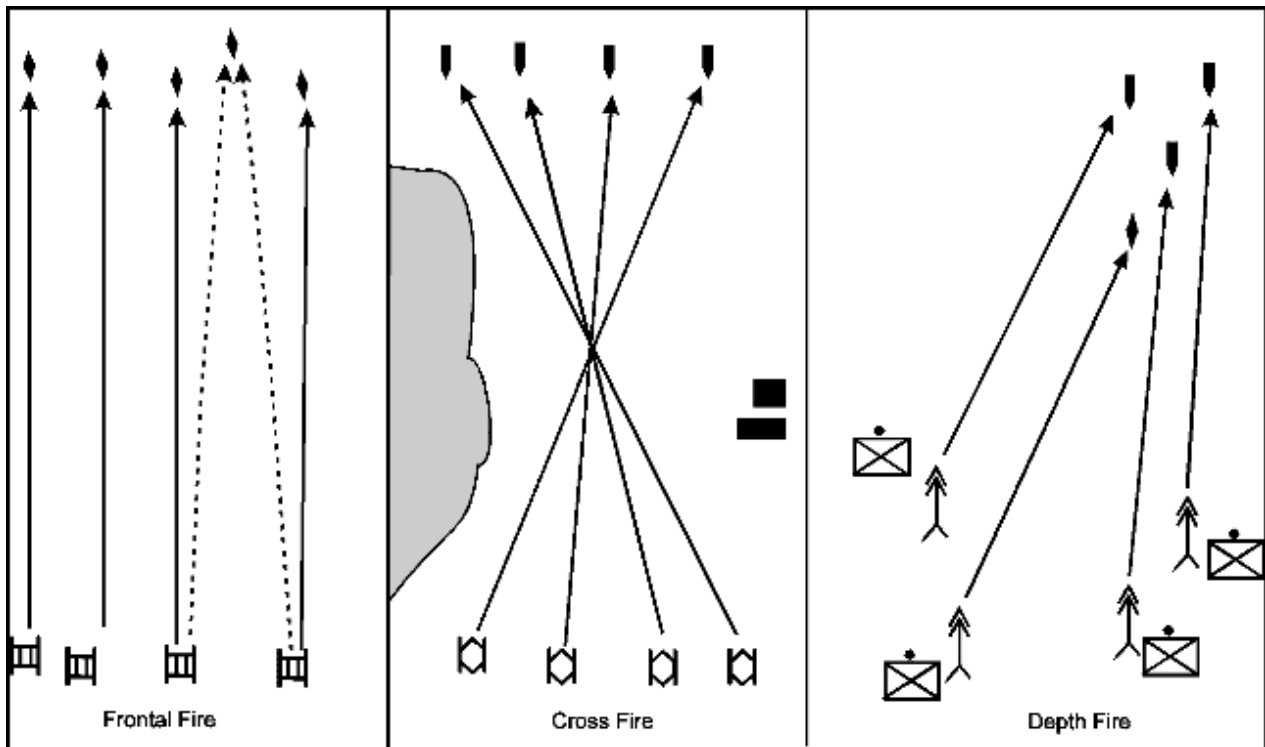

Figure 2-20. Examples of fire patterns.
**Fire patterns.** Fire patterns are a threat-based measure designed to distribute the fires of a unit simultaneously among multiple, similar targets. They are most often used by platoons to distribute fires across an enemy formation. Leaders designate and adjust fire patterns based on terrain and the anticipated enemy formation. The basic fire patterns, illustrated in Figure 2-20, are the following: